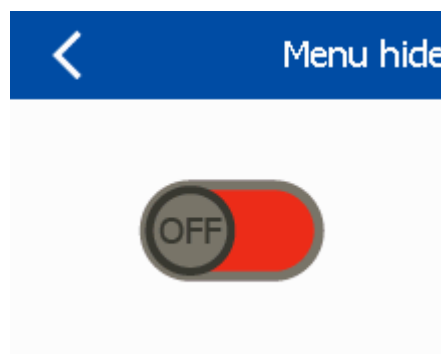

Fig. 80: Showing the menu
- ⇒ The 'Menu hide' screen (Fig. 80) displays.